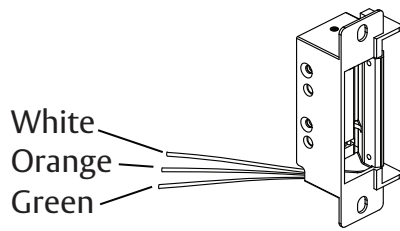
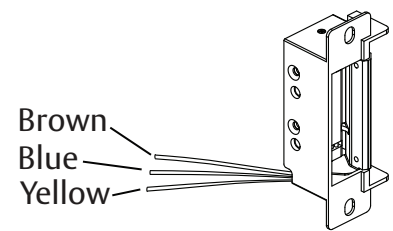

Figure 2: Latchbolt Monitor
Figure 3: Strike Monitor
2. IF using a Latchbolt Monitor (LBM) or Latchbolt Strike Monitor (LBSM), THEN COMPLETE wiring in accordance with Figures 2, "Latchbolt Monitor," and Figure 3, "Strike Monitor," on Page 3.